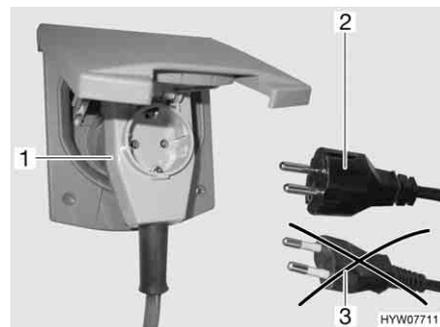

Fig. 114 Connecting an angled connector with socket
- ▶ When using a CEE 17 angled connector with rear socket (Fig. 114,1) only use a rubberised and sealed IP 44 socket with earth contact (Fig. 114,2). Do not use sockets without earth contact (Fig. 114,3).